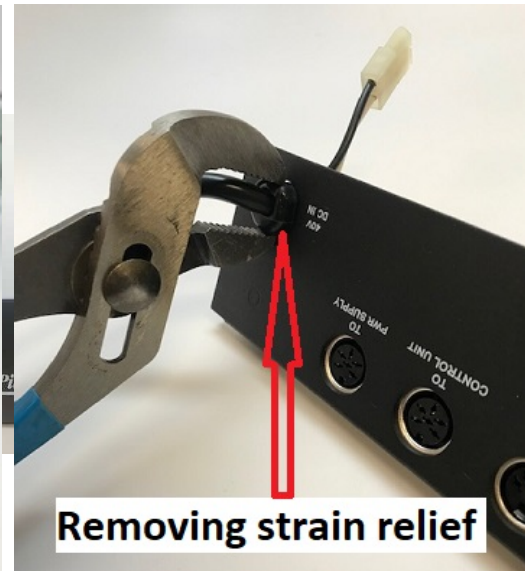

figure 3
6. Using a pair of channel lock pliers, squeeze the strain relief grommet on the 40 VDC cable to release from the plate. (See fig. 3)